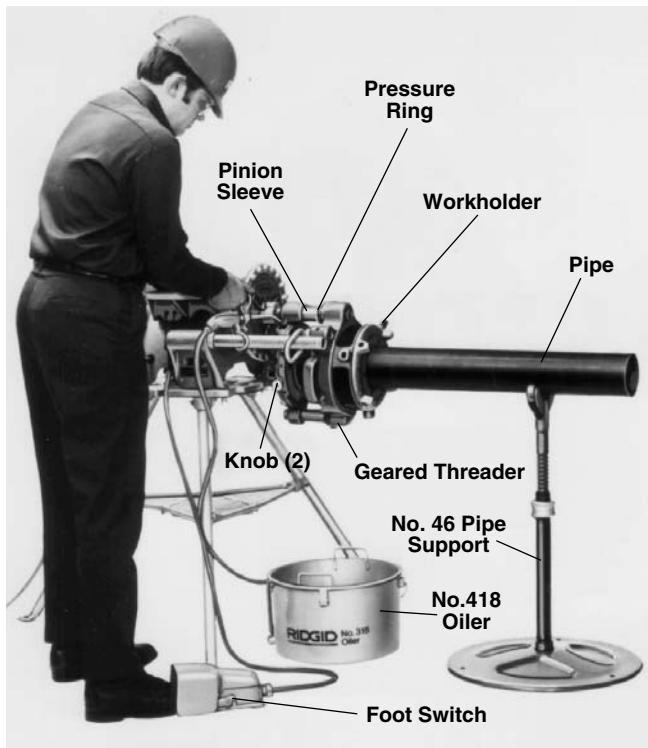

Figure 21 – Threading Pipe with No. 141 Geared Threader (Close-Coupled Method) (No. 161 Threader Similar)
6. Support pipe with a pipe support (*Figure 21*). Position support approximately 2-1/2 feet from threader.
9. Position No. 418 Oiler directly under threader (*Figure 21*).